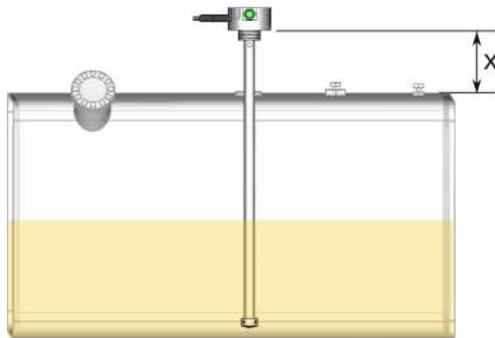

Figure 14: Calculating Extended Length
- Place probe into the mounting hole / nozzle and mark the extra length, say  $x$ , above the tank's mounting surface as shown in Figure 14.